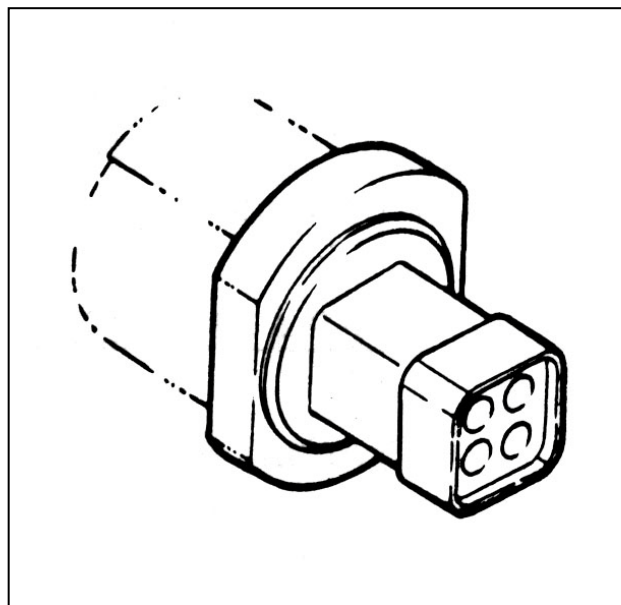

Figure 6.7 TCC Solenoid
1.	If the throttle position sensor on your throttle body is different from the one illustrated in Figure 6.7 , use the adapter provided in the kit.
- B. If you ARE using the lockup function, route the square 4-position connector to the transmission and attach it to the solenoid, **Figure 6.7**.